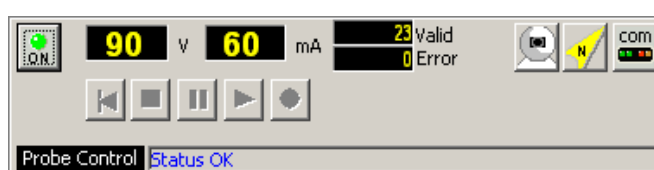

Fig.1.5b Data acquisition mode
**In acquisition mode** (fig.1.5b) Once the Logger is correctly connected and switched on, the sonde power button becomes visible. After checking that system is configured correctly for the OPTV sonde by means of the (logging cable type, and sonde power voltage) the sonde can be powered up to begin the recording of a log; the probe communication status being indicated by the "Probe Control" display. The start of data transmission is signalled by a "beep" from the system.